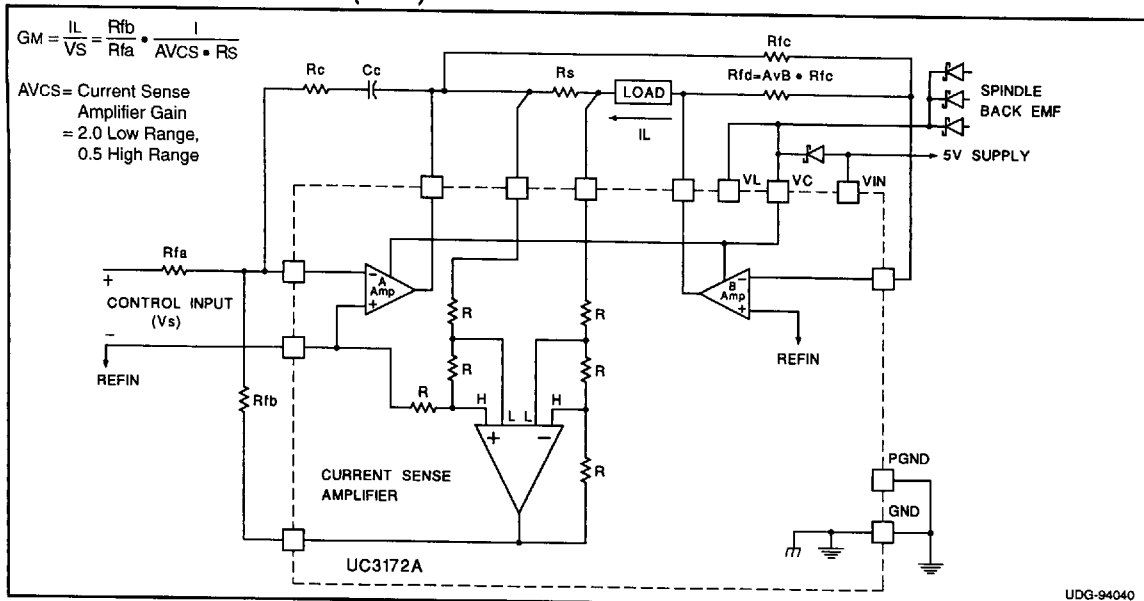

Figure 1. Typical Application
The following is a simple design flow that can be used to configure the UC3172A or UC3173A Full Bridge Power Amplifiers as shown in Figure 1.
- E. The normal configuration for compensation of the power amplifier is shown in Figure 1. A simple RC network, R_{CC} , around the A amplifier is all that is required.
In the closed loop transconductance amplifier, the A amplifier operates at the highest noise gain. Noise gain is a measure of the feedback ratio at which the amplifier is operating. For the configuration of the A amplifier in Figure 1, the noise gain is given by the impedance ratio of the R_C - C_C series network, to the parallel combination of R_{FA} and R_{FB} . For the A amplifier to operate at its expected closed loop gain, the noise gain at any frequency must not exceed its Gain Bandwidth Product (GBW) divided by that frequency. Applying this to the expression above will yield a result for the maximum 3dB bandwidth that can be achieved for a given configuration.